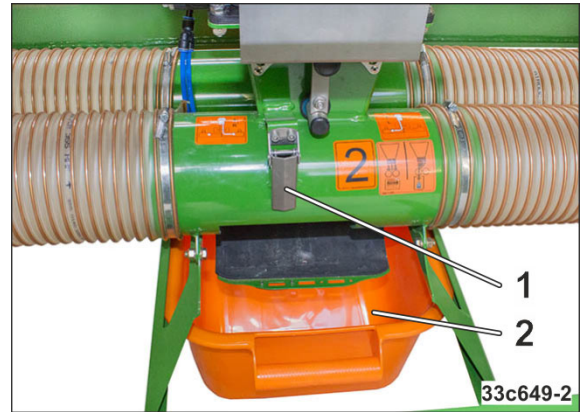

Fig. 269
3. Loosen both tensioning hooks (Fig. 269/1) and open the folding on both delivery tubes.
- The seed drops into the calibration trough (Fig. 269/2).